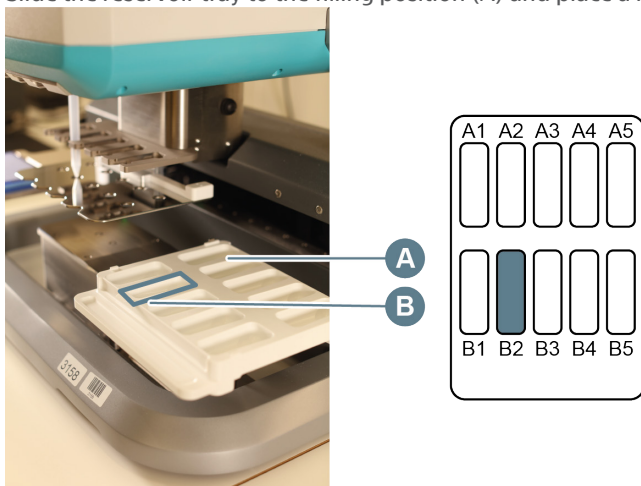

Figure 3. Disposable reservoir in reservoir tray of the Dragonfly.
2. Slide the reservoir tray to the filling position (A) and place a new reservoir in position B2 (B) (*Figure 3*).